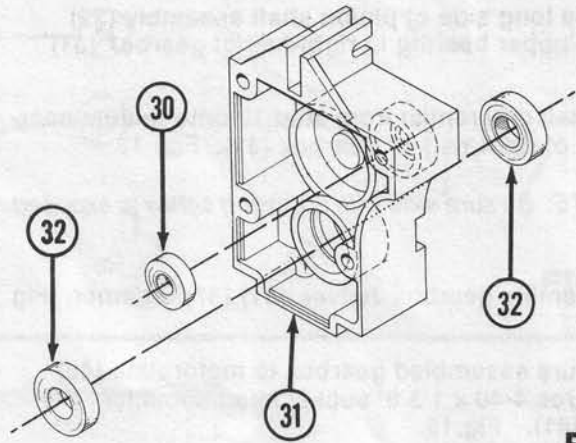

FIG. 12
13. Insert 3/16" x 3/8" bearing (30) into upper bearing seat of right half of gearbox (31). Fig. 12.
14. Insert two 8mm x 14mm bearings (32) into both sides of lower bearing seat of right half of gearbox (31). Fig. 12.